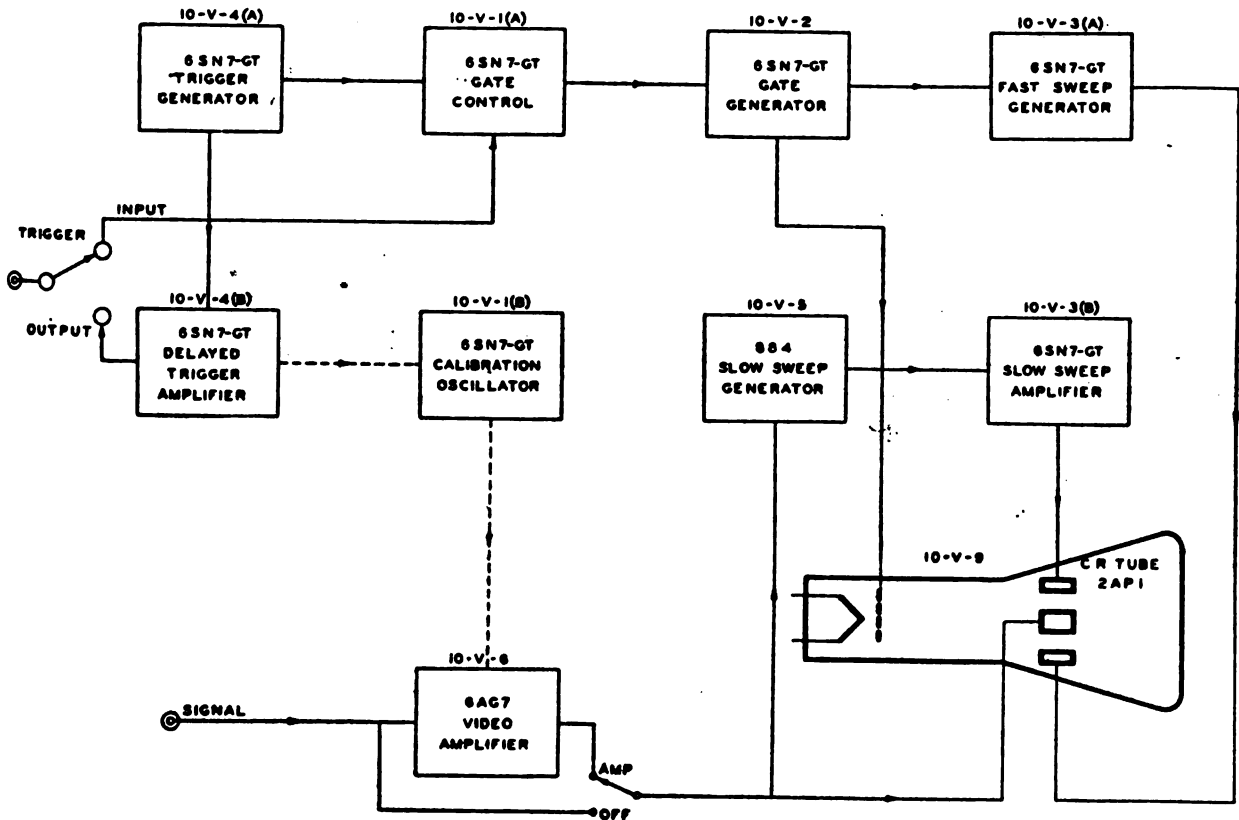

Figure 135. Synchroscope I-212, block diagram
d. **BLOCK DIAGRAM.** (1) The operation of the synchroscope can be traced on the block diagram (fig. 135). When used as an oscilloscope, the initial pulse originates in the trigger generator, 10-V-4(A), or from an external pulse from the